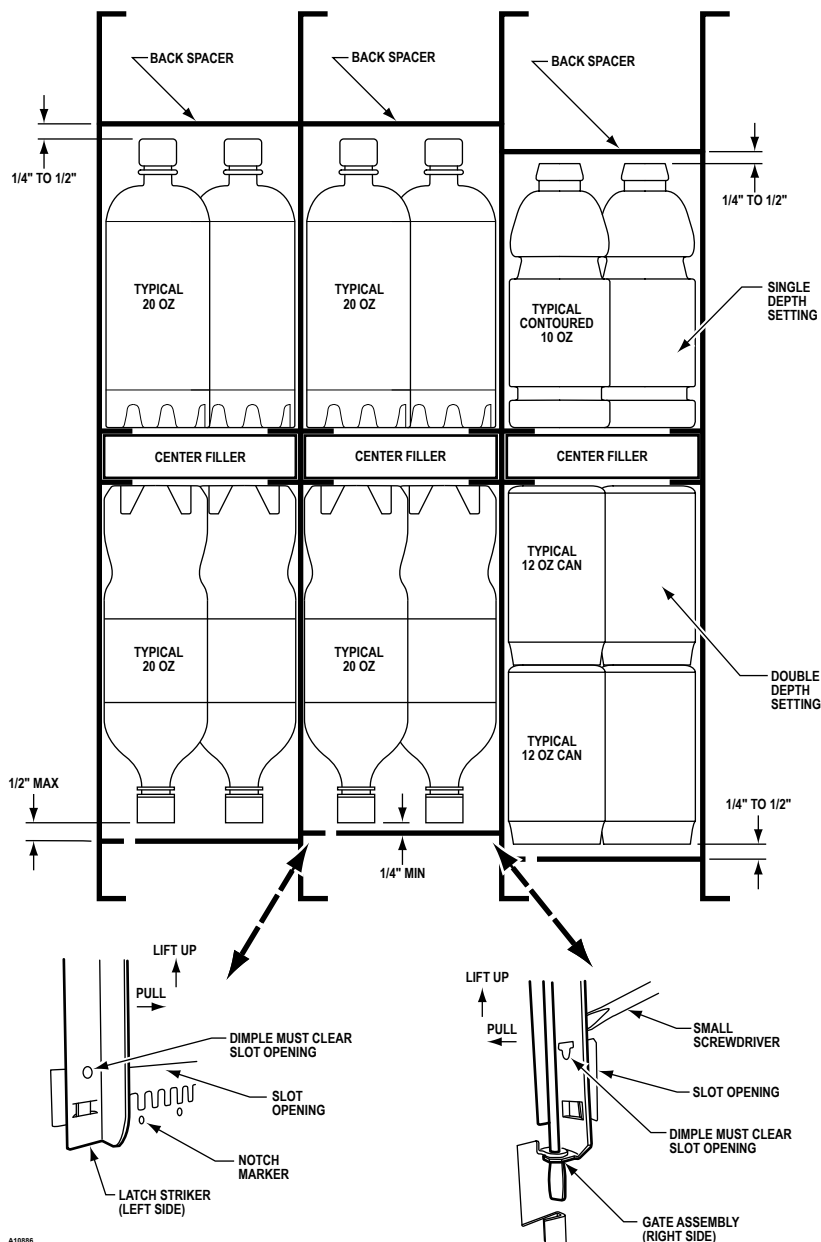

FIGURE 7. COLUMN DEPTH
2. □ Funnel slides must be kept clean. Refer to Figure 7 for part names, locations and product orientation.
3. □ Refer to Figure 7. Product container bottoms must face towards the center of the rack as shown.
8. □ Add five (5) rows of products in each column to check product spacing. Products should have 1/4 to 1/2 inches of free space at the front or back of the columns. See Figure 7. See step 9.
Lift the back spacer and reposition it in the adjustment slots. Use notch markers as reference points to align it vertically. See Figure 7.
Pull and lift up on the lower end of the gate assembly (or latch striker). Use a small screwdriver as a wedge to gently pry the dimple away from the slot opening. See Figure 7. Reposition them in the adjustment slots. Use notch markers as reference points to align it vertically.